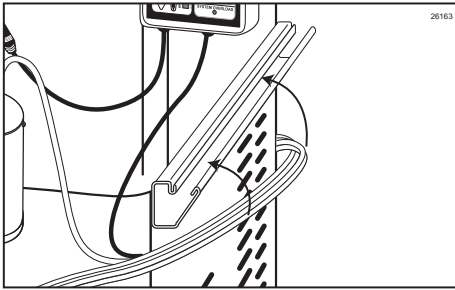

Figure 145
- Place the 9-Tube Assembly, the Keypad Cable, and the Motor Cable inside the Casing. (See Figure 145.)